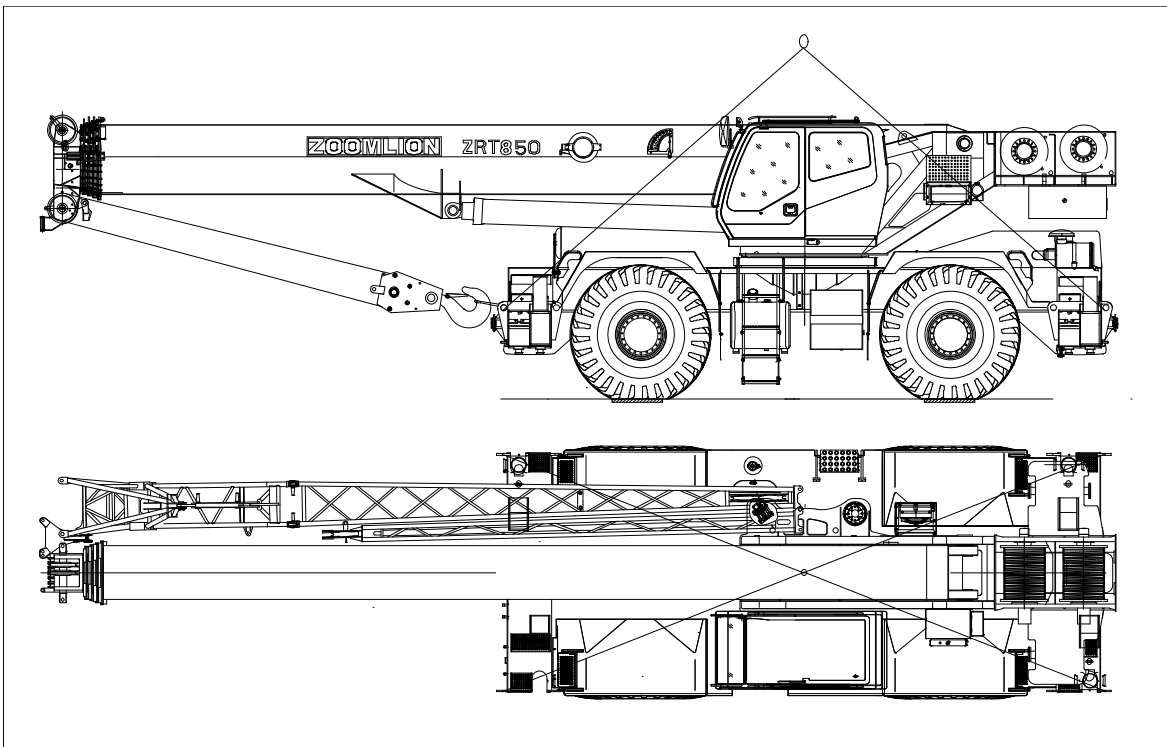

Figure 8-1 Crane Lift Points
- (1) You can move the crane by its power for a short distance or by other carriers for a long distance (train or ship). If you move the crane, chock the wheels and make the crane safe with wire-rope. Fully close the windows and door to keep rain and moisture out of the cab. Lock the door and windows. Follow the protection procedures to prevent corrosion and rust if you move the crane by sea.
- (2) The positions to lift the crane are in the Figure 8-1. Follow applicable rules while you lift.